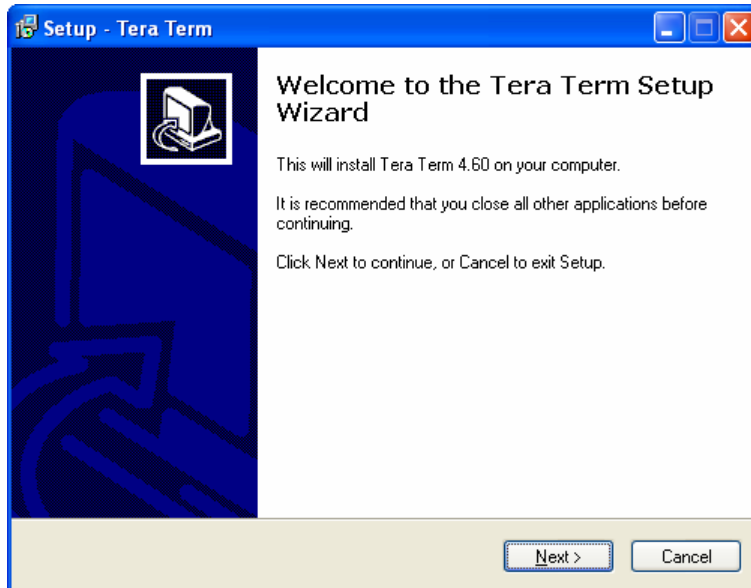

Figure 6-13: Tera Term Setup Screen
7. When the Tera Term setup screen appears, click **N**ext (Figure 6-13).